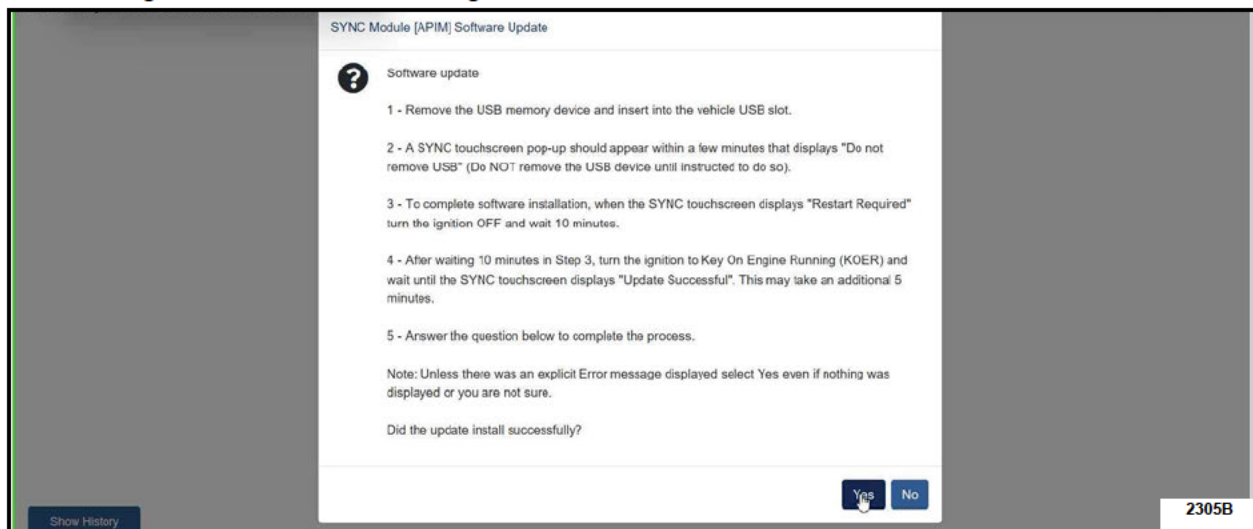

FIGURE 4
29. Return the USB thumb drive to the FDRS and follow the on-screen prompts carefully until the following screen is reached. See Figure 4.